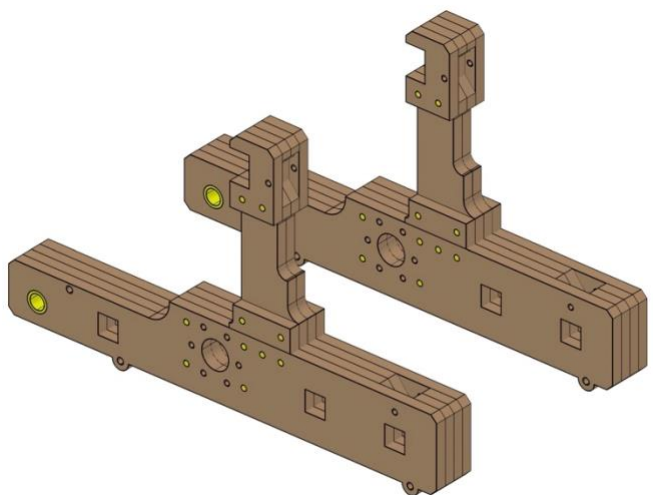

Fig. 12
- *Fig. 12* shows the completed process (make two parts).